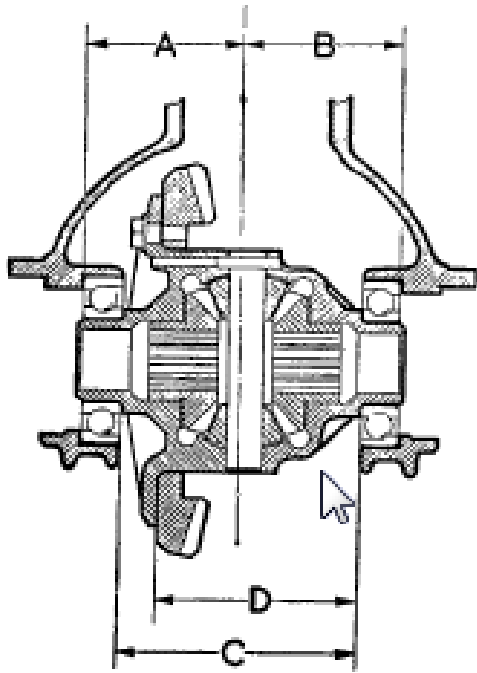

Fig. H.5 The dimensions referred to in the instructions for differential setting
1. Before fitting the crown wheel and differential assembly to the gear carrier it is necessary to calculate the shim thickness required behind each bearing to give the required pinch. To facilitate the calculation, machining variations are indicated by stamped numbers on the carrier adjacent to the bearing bores. The dimensions to be considered are shown in Fig. H.5, (A) being the distance from the centre-line to the bearing register of the carrier on the left-hand side, and